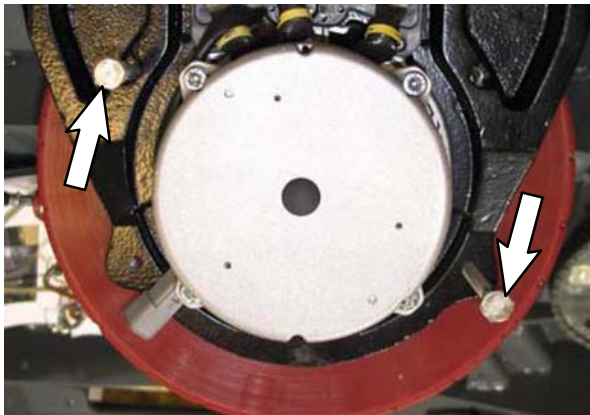
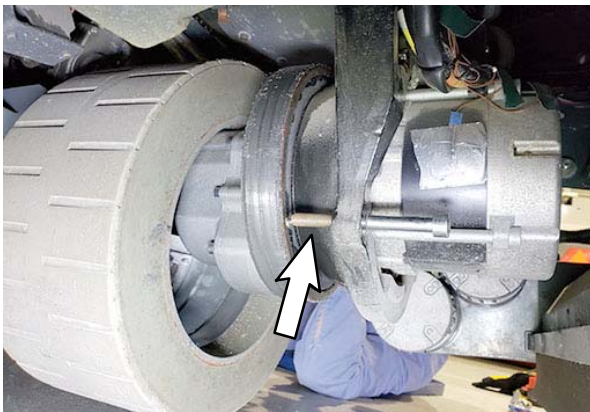

FIG. 3
FIG. 4
6. Use the two extractor hex screws (3) to press the wheel from the drive wheel assembly. Tighten the screws evenly until the wheel comes freely from the drive wheel assembly. (Fig. 3/ Fig. 4)